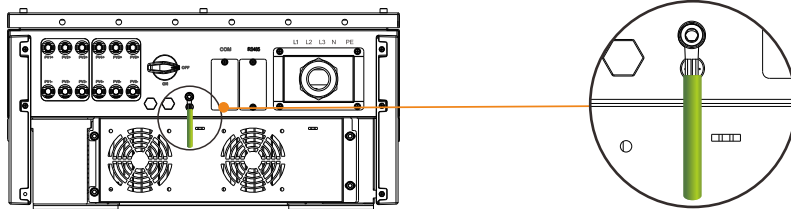

Figure 5.3 Securing the PGND cable
Step 3 Secure the PGND cable using the ground screw and tighten the screw to a torque of 3 N·m, as shown in Figure 5.3.